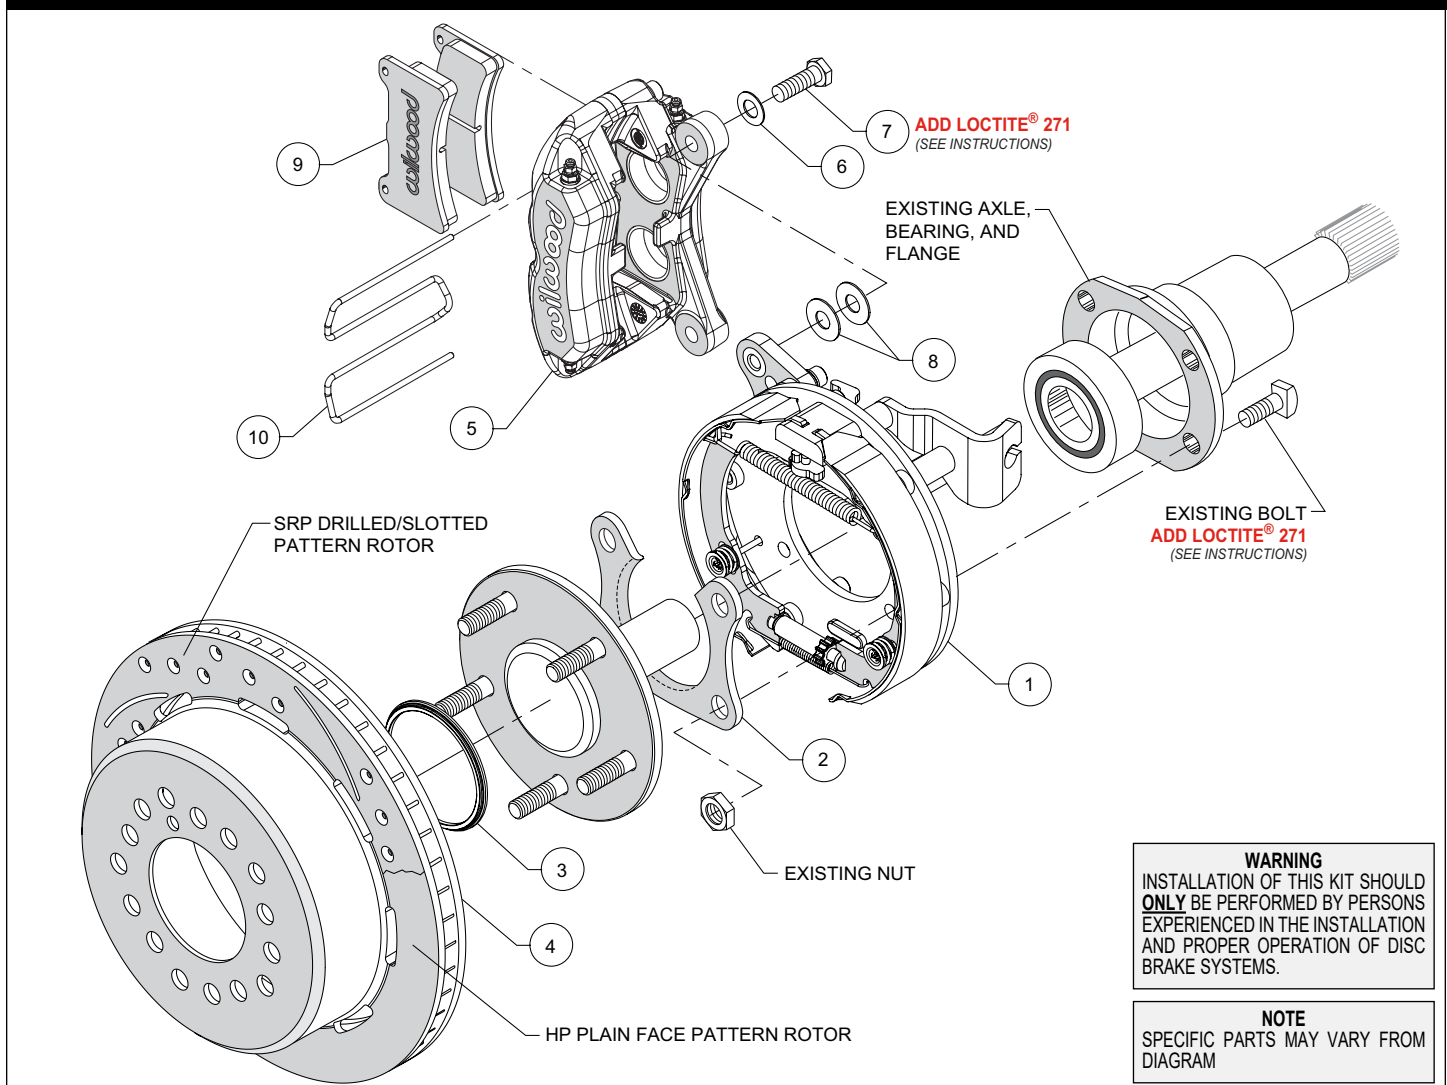
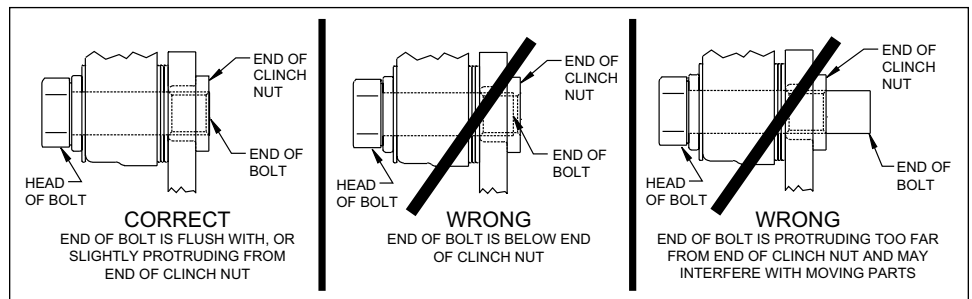

Figure 1. Typical Installation Configuration
Figure 5. Clinch Nut Engagement Diagram
NOTE: Numbers in parenthesis refer to the parts list and Figure 1 on the preceding pages.
CAUTION: All mounting bolts must fully engage clinch nuts. Be sure to check that all bolts are either flush or protruding through flanged side of clinch nut after shimming, Figure 5.
- Orient the bracket assembly (1) as shown in Figure 1 and Photo 1 and slide it onto the axle. Insert the axle and bracket into the axle housing. Ensure that the bracket assembly backing plate fits flush against the axle housing flange.
- Install the bearing retainer (2) with the opening pointing upward and the lip facing inward (toward the bearing), as shown in Figures 1 and 4, and Photo 2. Secure retainer and bracket assembly to the axle housing flange using the Original Equipment Manufacturer (OEM) bolts and nuts, Figure 1. Apply red *Loctite*® 271 to the OEM bolt threads and torque to OEM specifications.
- Slide the rotor registration adapter (3) onto the axle register on the axle flange with the smaller O.D. facing toward the rotor/hat (4), Photo 3. Align the correct hole pattern in the rotor/hat with the stud pattern on the axle flange and slide into place, Figure 1 and Photo 4. **NOTE:** The rotor/hat must fit flush against the axle flange or excessive rotor run out may result. Install three lug nuts (finger tight) to keep the rotor/hat assembly in place while continuing with the installation. **NOTE:** Some OEM and after market axles come with stud sizes larger than 0.50" diameter. Verify stud size and have a qualified machine shop drill the bolt circle of the hat/rotor to the correct stud size, if necessary.
- NOTE:** Please reference the caution statement at the beginning of the assembly instructions. Mount the caliper (5) onto the caliper mounting bracket (1) using bolts (7) and washers (6), as shown in Figure 1. Initially place two .035" thick shims (8) on each bolt between the caliper and the bracket, Photo 5. Temporarily tighten the mounting bolts and view the rotor (4) through the top opening of the caliper. The rotor should be centered in the caliper, Photo 6. If not, adjust by adding or subtracting shims between the bracket and the caliper. Always use the same amount of shims on each of the two mounting bolts. **NOTE:** The end of each bolt must be flush with or slightly protruding from the head of the clinch nut, as shown in Figure 5. If necessary place spare shims between washer (6) and caliper mounting ear to achieve the proper clinch nut engagement. Once the caliper alignment and clinch nut engagement are correct, remove the bolts one at a time, apply red *Loctite*® 271 to bolt threads, and torque to 40 ft-lb.